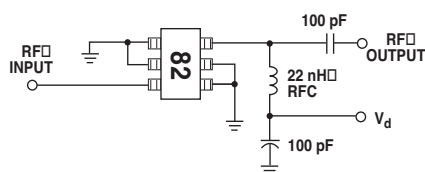
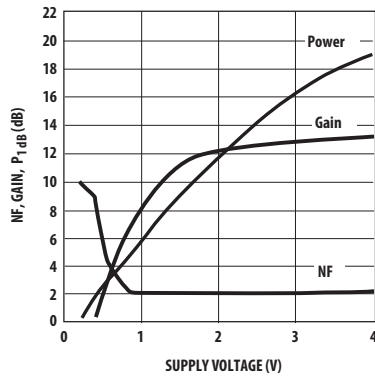

Figure 10. Test Circuit.
Figure 19. Gain, Noise Figure, and Output Power vs. Supply Voltage.
1. Guaranteed specifications are 100% tested in the circuit in Figure 10 in the Applications Information section.
The circuit shown in Figure 10 is used for 100% RF testing of Gain and Noise Figure. The test circuit is merely a 50Ω input/output PC board with a RFC at the output to apply DC bias to the device under test. Tests in this circuit are used to guarantee the  $NF_{\text{test}}$  and  $G_{\text{test}}$  parameters shown in the table of Electrical Specifications.
Like other active devices, the intermodulation products of the MGA-82563 increase as the device is driven further into nonlinear operation. The 3rd, 5th, and 7th order intermodulation products of the MGA-82563 are shown in Figure 18 along with the fundamental response. This data was measured in the test circuit in Figure 10.
While the MGA-82563 is designed primarily for use in +3 volt applications, the internal bias regulation circuitry allows it to be operated with power supply voltages from +1.5 to +4 volts. Performance of Gain, Noise Figure, and Output Power over a wide range of bias voltage is shown in Figure 19. (This data was measured in the test circuit in Figure 10.) As can be seen, the gain and NF are fairly flat, but an increase in output power is possible by using higher voltages. The use of +4 volts increases the  $P_{1dB}$  by over 2 dBm.